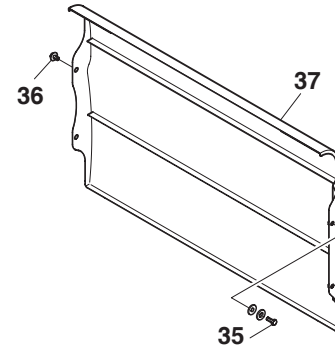

Figure 15
5. Install four bolts (35 and 36, Figure 15) and cover (37) on fuel tank and support.